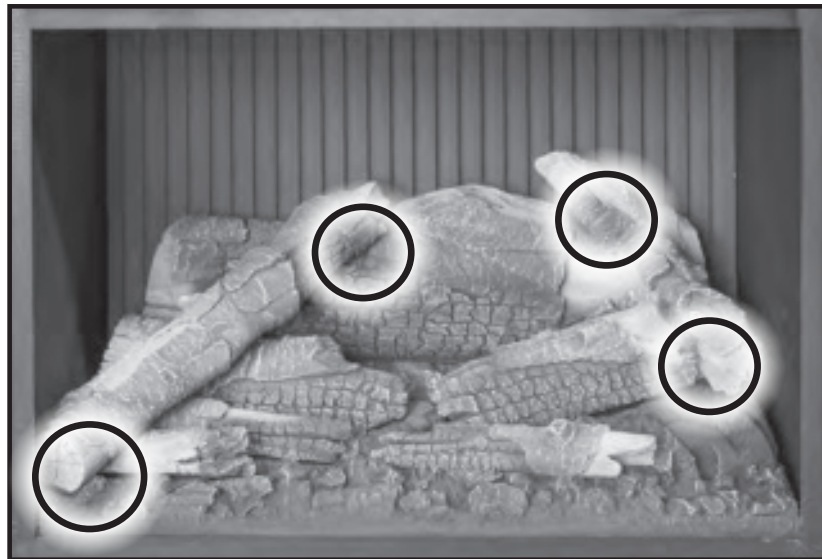

Figure 42. Top Logs.
6. Next, Install the left and right top logs, as shown in Figure 42. Note the locating notches on the bottom side of both logs (areas highlighted).